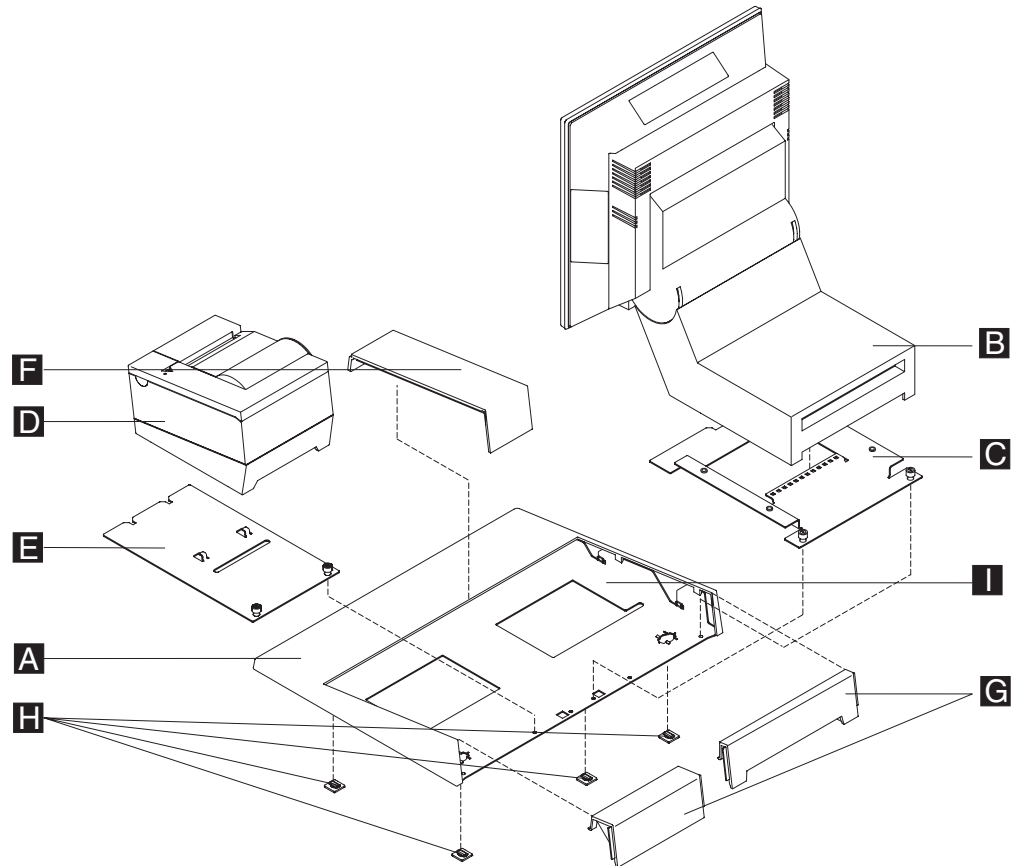

Figure 27. Countertop non-keyboard integration tray
- a. Remove the vertical rear covers **G** behind the system and remove the narrow filler panel **F** between the system and printer as shown in Figure 27.